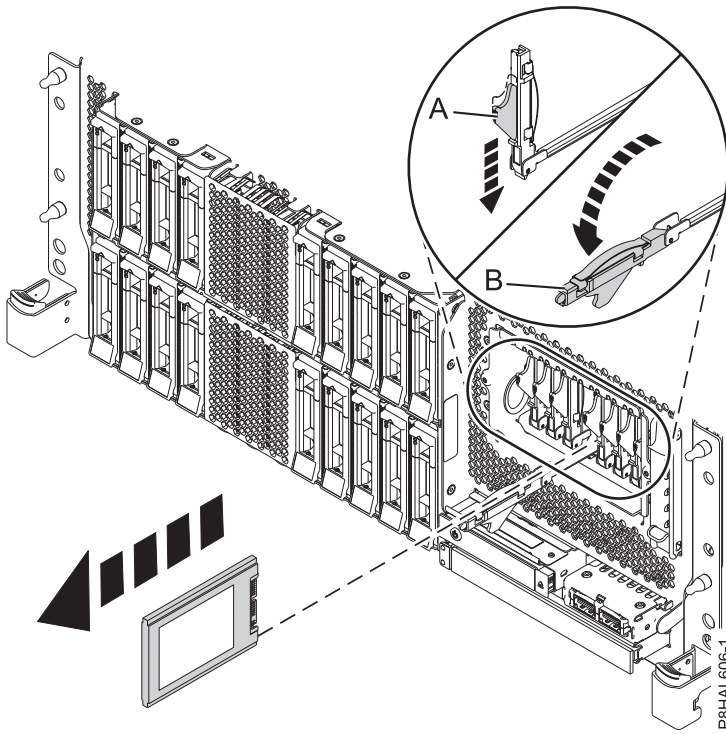
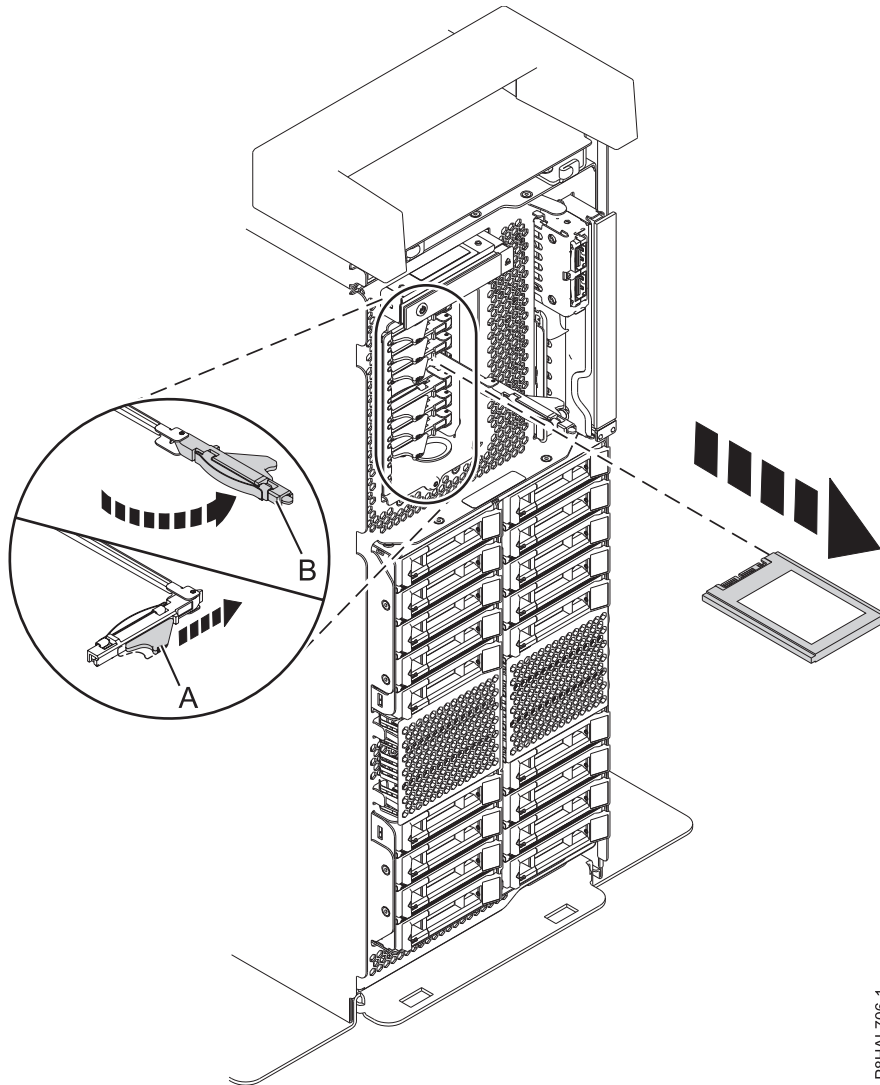

Figure 61. Removing an SSD from a rack-mounted expanded function system
Figure 62. Removing an SSD from a stand-alone expanded function system
10. Unlock the drive bay handle (B) by pushing the handle latch (A) in the direction that is shown and pulling the drive handle (B) out toward you, as shown in Figure 61 and Figure 62 on page 67. If the handle is not all the way out, the solid-state drive cannot slide out of the system.